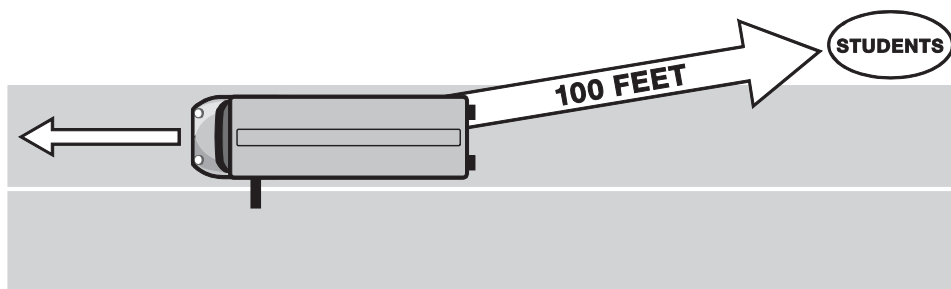

Figure 8-1. A Safe Place after Evacuation.
- A safe place is at least 100 feet (approximately 40 paces) off the road, in the direction of oncoming traffic (Figure 8-1). This will keep students from being hit by debris if another vehicle collides with the bus.